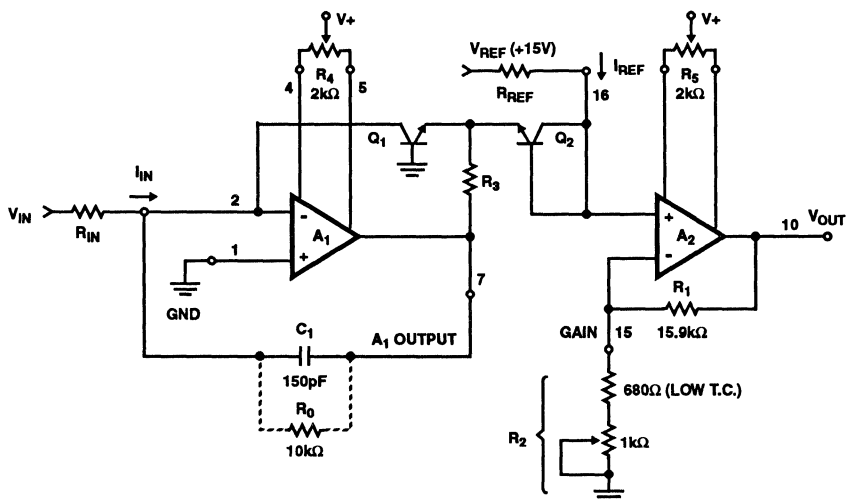
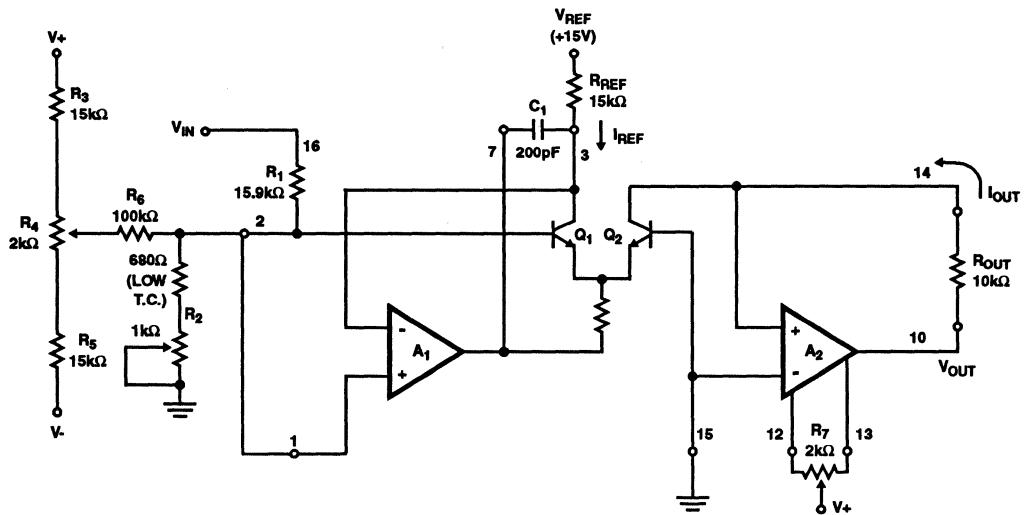
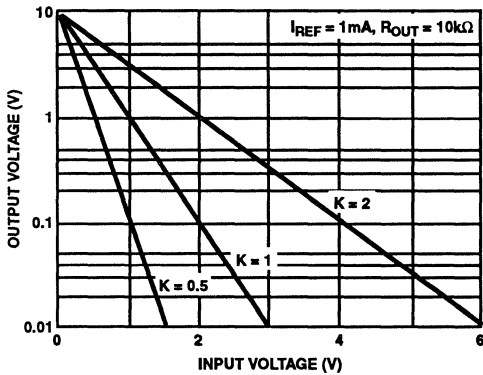
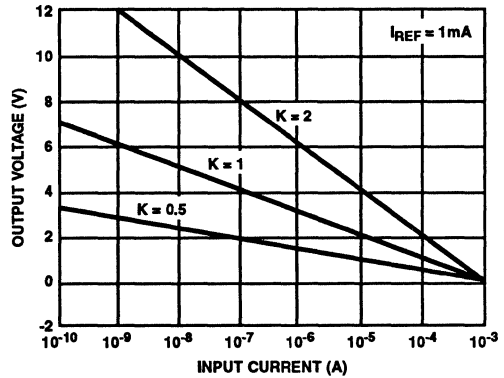

FIGURE 11. ICL8048 OFFSET AND SCALE FACTOR ADJUSTMENT
FIGURE 12. ICL8049 OFFSET AND SCALE FACTOR ADJUSTMENT
FIGURE 13. EFFECT OF VARYING "K" ON THE ANTILOG AMPLIFIER
FIGURE 14. EFFECT OF VARYING "K" ON THE LOG AMPLIFIER
Referring to Figure 11 it is clear that the potential at the collector of Q_2 is equal to the ΔV_{BE} between Q_1 and Q_2 . The output voltage is ΔV_{BE} multiplied by the gain of A_2 :
A log amp, unlike an op amp, cannot be offset adjusted by simply grounding the input. This is because the log of zero approaches minus infinity; reducing the input current to zero starves Q_1 of collector current and opens the feedback loop around A_1 . Instead, it is necessary to zero the offset voltage of A_1 and A_2 separately, and then to adjust the scale factor. Referring to Figure 11, this is done as follows:
The ICL8049 relies on the same logarithmic properties of the transistor as the ICL8048. The input voltage forces a specific ΔV_{BE} between Q_1 and Q_2 (Figure 12). This V_{BE} difference is converted into a difference of collector currents by the transistor pair. The equation governing the behavior of the transistor pair is derived from (2) on the previous page and is as follows:
As with the log amplifier, the antilog amplifier requires three adjustments. The first step is to null out the offset voltage of A_2 . This is accomplished by reverse biasing the base-emitter of Q_2 . A_2 then operates as a unity gain buffer with a grounded input. The second step forces $V_{IN} = 0$; the output is adjusted for $V_{OUT} = 10V$. This step essentially "anchors" one point on the transfer function. The third step applies a specific input and adjusts the output to the correct voltage. This sets the scale factor. Referring to Figure 12 the exact procedure for 1 decade/volt is as follows:
By adjusting R_2 (Figure 11 and Figure 12) the scale factor "K" in equation 9 and 10 can be varied. The effect of changing K is shown graphically in Figure 13 for the log amp, and Figure 14 for the antilog amp. The nominal value of R_2 required to give a specific value of K can be determined from equation 11. It should be remembered that R_1 has a $\pm 20\%$ tolerance in absolute value, so that allowance shall be made for adjusting the nominal value of R_2 by $\pm 20\%$.
Although the op amps in both the ICL8048 and the ICL8049 are compensated for unity gain, some additional frequency compensation is required. This is because the log transistors in the feedback loop add to the loop gain. In the ICL8048, 150pF should be connected between Pins 2 and 7 (Figure 11). In the ICL8049, 200pF between Pins 3 and 7 is recommended (Figure 12).
In both the ICL8048 and ICL8049 the input current reference pin (I_{REF}) is not a true virtual ground. For the ICL8048, a fraction of the output voltage is seen on Pin 16 (Figure 11). This does not constitute an appreciable error provided V_{REF} is much greater than this voltage. A 10V or 15V reference satisfies this condition. For the ICL8049, a fraction of the input voltage appears on Pin 3 (Figure 12), placing a similar restraint on the value of V_{REF}.